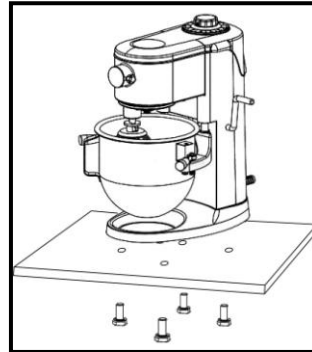

Figure 1
- You may place the mixer on bench which is capable of supporting a load of 25kg. For operation stability, please punch four holes on the table and fix SL-500A onto the table by four screws. Please see **Figure 1**.